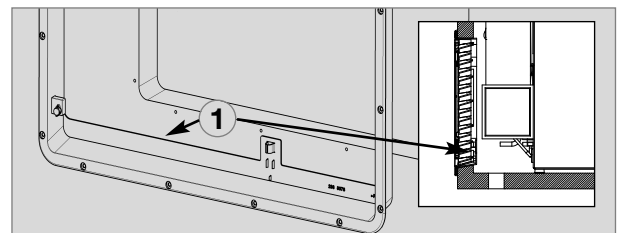
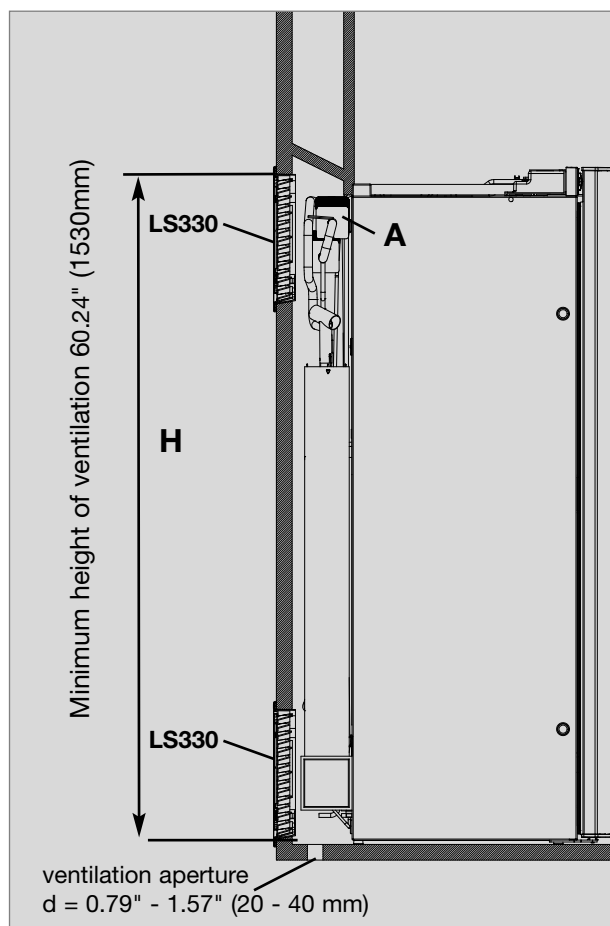

Fig. 10
Fig. 11
Ventilation is provided for the unit by means of two apertures (ventilation grilles) in the vehicle's wall. Fresh air enters at the bottom, extracts the heat and exits through the upper vent grille (chimney effect). **The upper ventilation grille should be positioned as high as possible above the cooling unit (Fig. 11). Install the lower ventilation grille at floor level of the recess floor (Fig. 10), allowing unburnt gas (heavier than air) to escape directly into the open air. The gas burner must be located above the edge (1) .**
Should this arrangement prove impossible, a ventilation aperture must be introduced by the manufacturer of the vehicle into the recess floor in order to avoid the accumulation of unburnt gas on the floor (see Fig. 11,12).
To install the ventilation grilles, cut two rectangles, width for LS 330 **a = 9.8" in x b = 16.14" in (a = 249 mm x b = 410 mm)** or for LS 200 **a = 17.76" x b = 6.14" in (a = 451 mm x b = 156 mm)**, in the outer wall of the vehicle (for position of the cuts, see Fig. 11,12).